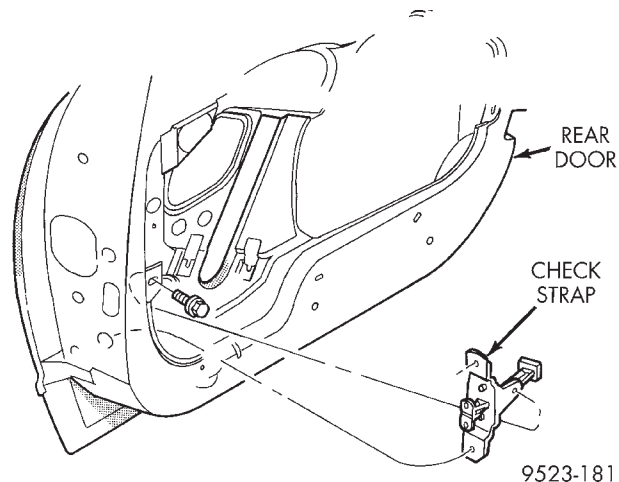

Fig. 42 Rear Door Check Strap
- (1) Remove rear door trim panel.
- (2) Remove bolt holding check strap to hinge pillar.
- (3) Remove bolt holding check strap to inner door panel (Fig. 42).
- (4) Remove bolts holding check strap to door end frame.
- (5) Separate check strap from vehicle.